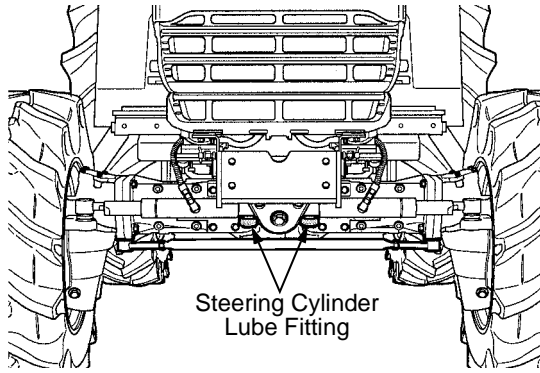

Figure 70
- Steering cylinders. See Figure 70.